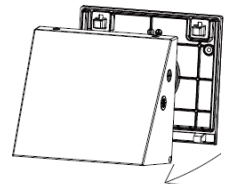

Fig. 2.2
2. Remove the original mounting plate from the front cover of the luminaire (Fig. 2.2).